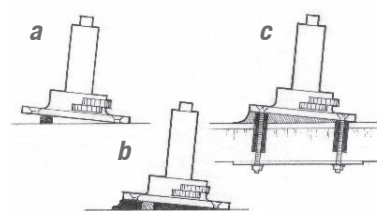

Figure 19 Support the base in position with blocking. Fill the void with thickened epoxy.
2. Bond small blocks to the substrate to support the base at the desired height and position (e.g., winch base, Figure 19-a).
4. Place the hardware in position, resting on the blocks (Figure 19-b), and install the fasteners.
5. Smooth the excess epoxy into the desired fillet shape around the base (Figure 19-c). Allow the epoxy to cure fully before loading. Protect exposed epoxy from UV.